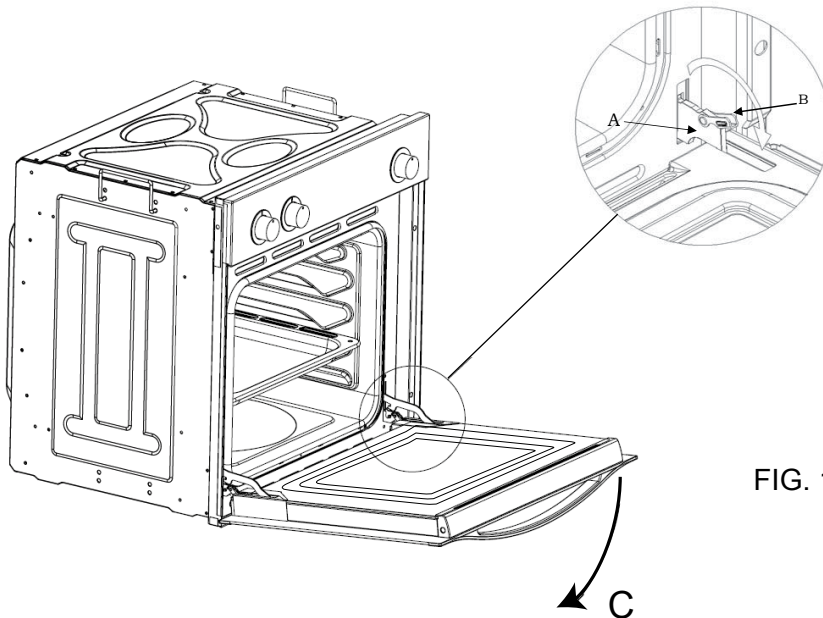

FIG. 1
- > Remember to turn the two moving links "B" used to engage the two hinges before closing the door (Fig.1).